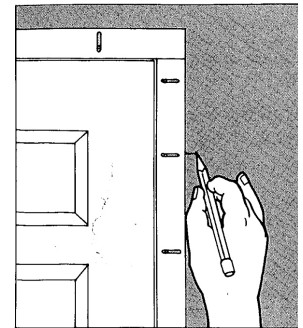

Figure 2G-1
2. Use a pencil and lightly mark the hole positions in the metal frame out to the side of the frame (Figure 2G-1).